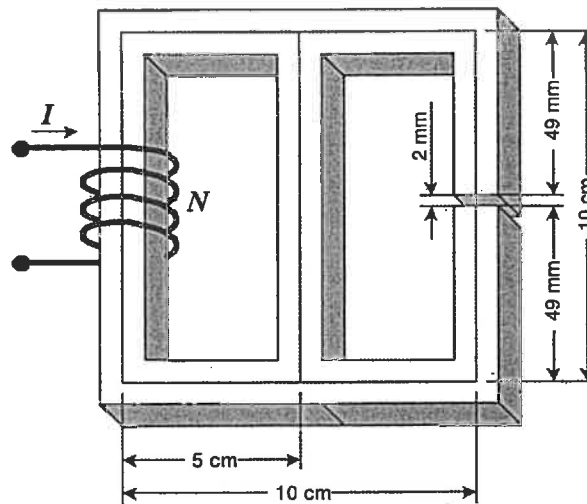

Figure 5: Magnetic core for Question 5
A magnetic core is shown in Figure 5. Consider that the cross section is uniform and equal to  $100 \text{ mm}^2$ , relative permeability  $\mu_r = 2000$ , number of winding turns  $N = 100$  and current  $I = 1 \text{ A}$  ( $\mu_0 = 4\pi \times 10^{-7} \text{ H/m}$ ).
- Draw the analog circuit representation of the magnetic circuit from Figure 5.